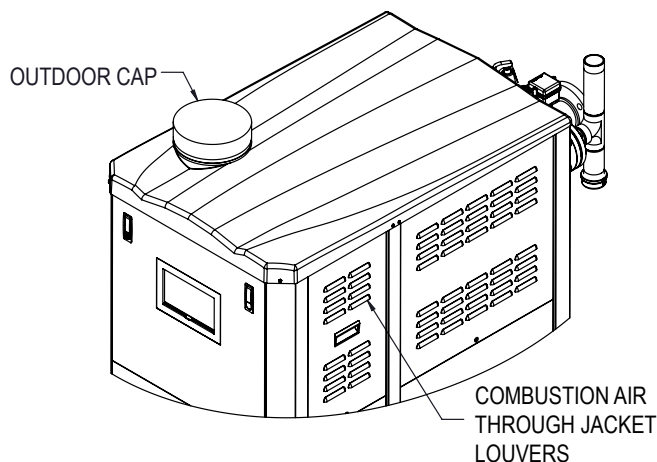

Figure 15. Outdoor Combustion Air
Combustion air is drawn through the louvers in the jacket. **DO NOT** remove the outdoor cap as shipped from the factory. See **Figure 15**.
1. Install combustion air duct to the Air Intake Connection. See **Figure 4** and **Figure 15**. Remove and discard the outdoor cap and extend the combustion air duct through the top to connection to combustion air duct. Seal the joint and fasteners with RTV (not supplied). All ducting shall be self-supporting.